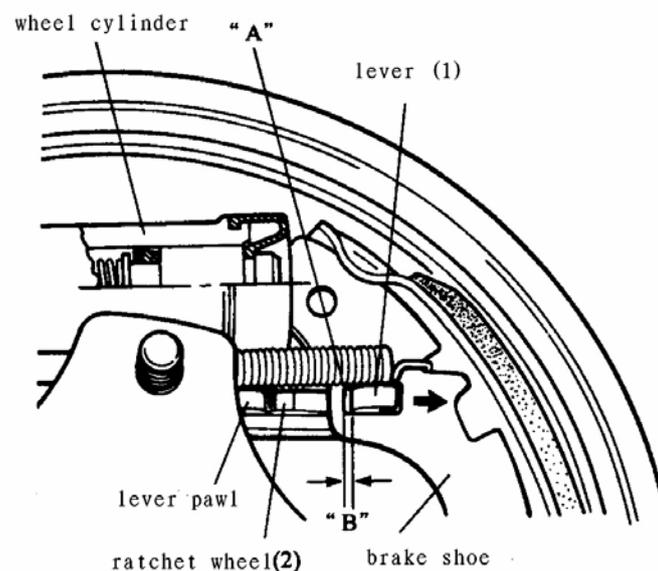

FIG.16-10
At the same time, the distance the brake shoe moves is "B", that is, the distance that "A" (the end of the long hole made in the brake shoes web) moves till it contacts the lever (1) which is fitted in the long hole. (FIG.16-10)
When the brake pedal is depressed, the piston and brake shoe move toward the brake drum side by the aforementioned distance "B" and "A" of the brake shoe web contacts the lever (1). As the brake shoe gets worn and the brake shoe clearance becomes large, the force applied to the lever (1) at the time of such a contact becomes larger. When it exceeds 7~9kgf, the "A" of the brake shoe web moves the lever (1) as much as the amount of the brake shoe lining wear toward the direction as shown with an arrow in FIG.16-10. Thus the shoe is forced against the drum and the brake force is produced.